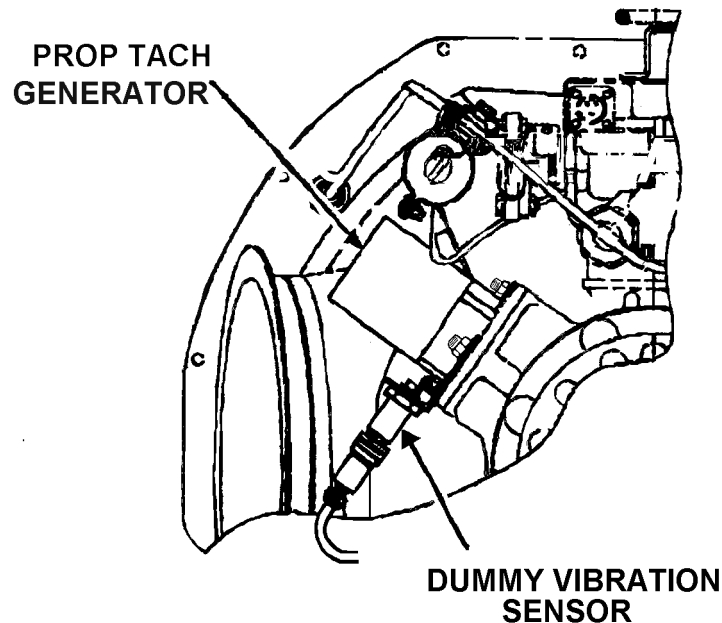

Figure 2
3. If you are installing the vibration sensor at the position of the dummy sensor on the engine, remove the dummy sensor and replace it with the 991V sensor, item 5. (See figure 2 below). NOTE: A sensor mounted as shown below is considered to be at the 7:00 position relative to the prop shaft.